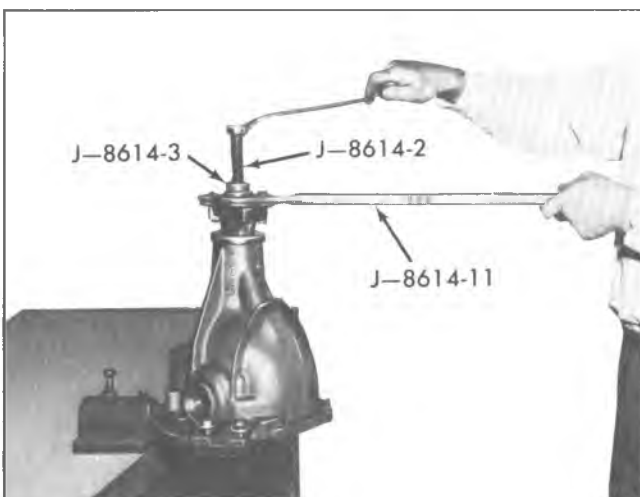

Fig. 15C—Removing Companion Flange
5. Thread end of J-8614-3 into small O.D. end of J-8614-2. Then with J-8614-11 installed as in step 3, insert J-8614-2 into J-8614-11 and turn it 1/8 of a turn to locked position. Remove flange by turning J-8614-3 while holding J-8614-11 as shown in figure 15C.